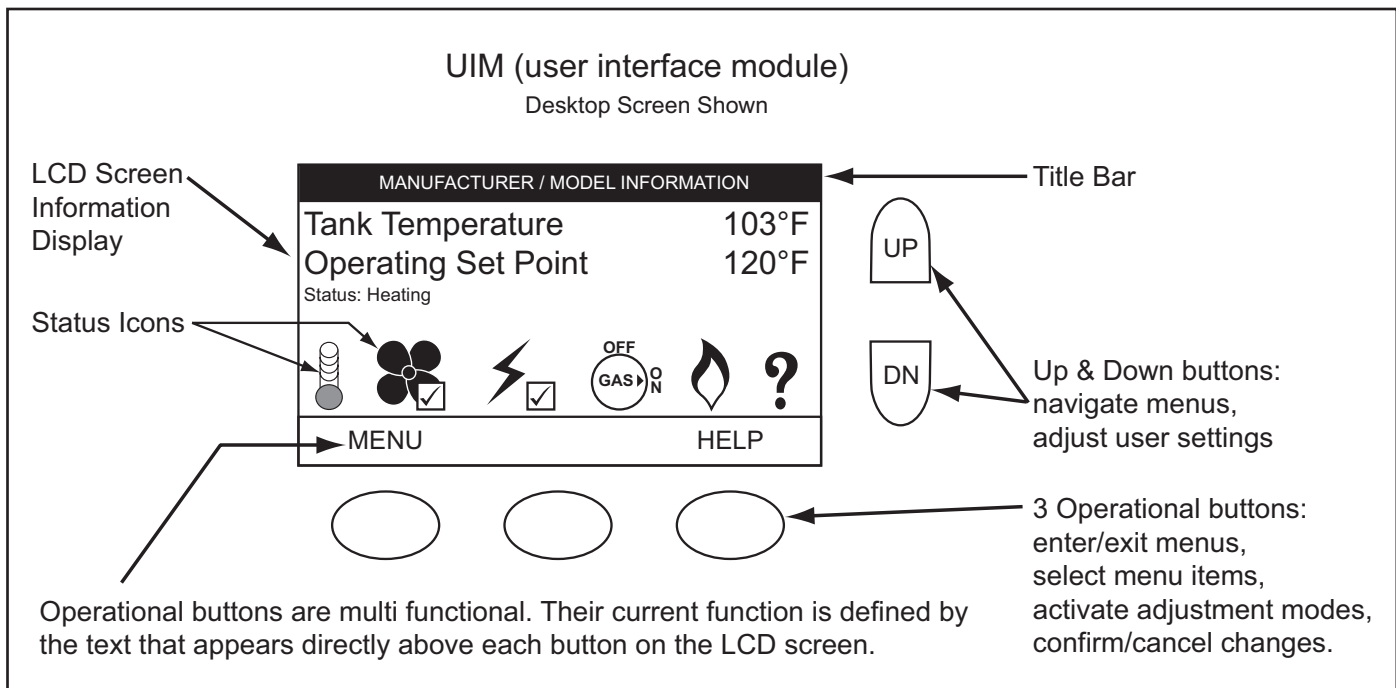

Figure 55
All operational information and user settings are displayed and accessed from the UIM. The UIM houses the control system's LCD (liquid crystal display) and five snap acting (momentary) user input buttons; an up, down and three (3) multi functional operational buttons below the LCD, see Figure 55.
The Status Icons are displayed on the Desktop screen and convey operational and diagnostic information. The icons are described in the table below. See Figure 55 on page 42 and the Sequence Of Operation on page 55.
The current operational state of the water heater is displayed on the Desktop screen as the "Status." The common operational states are described in the table below. See Figure 55 on page 42 and the Sequence Of Operation on page 55.